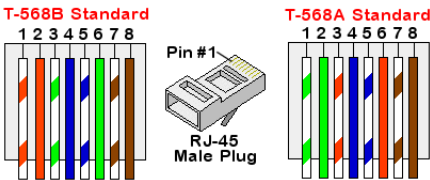

Figure 19: Standard cable wiring
- c. Insert the eight wires into an RJ45 connector, as described in *Figure 19*
7. For the switch/ router side, use a pre-crimped cable or use a crimper to prepare an RJ45 communication connector: Insert the eight wires into the RJ45 connector in the same order as above (*Figure 19*).